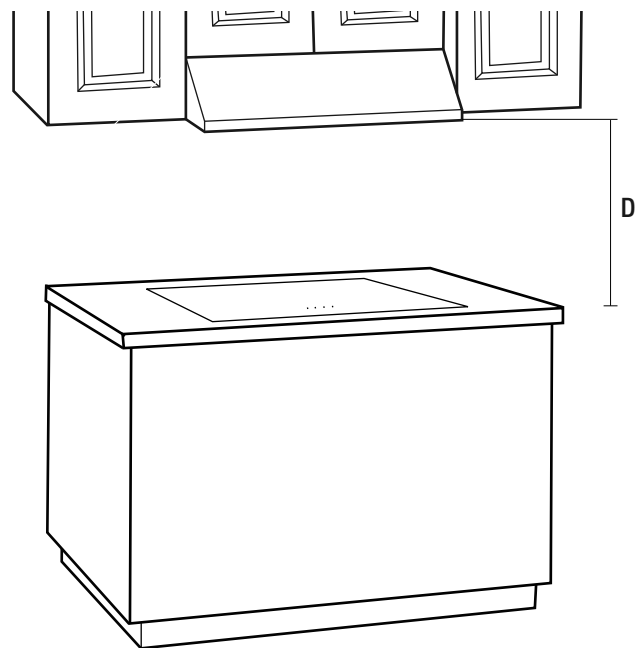

Fig. 1
4. If you choose to hang the range hood as below (Fig. 1) distance (D) from the cooktop surface, use extra caution as the surface of range hood may be extremely hot to the touch. For this unit, (D in Fig. 1) is 458 mm - 710 mm (18 in - 28 in). If you choose an 18 in installation, the temperature of the unit surface will be high if the unit is operated under high power cooking for a certain amount of time.